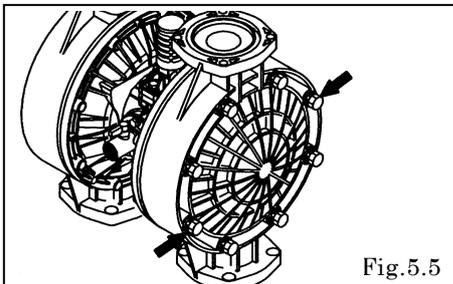

Fig. 5.5
- Remove the 16 (24 on the NDP-H80) retainer bolts from the out chamber, and remove the out chamber. [Fig.5.5]